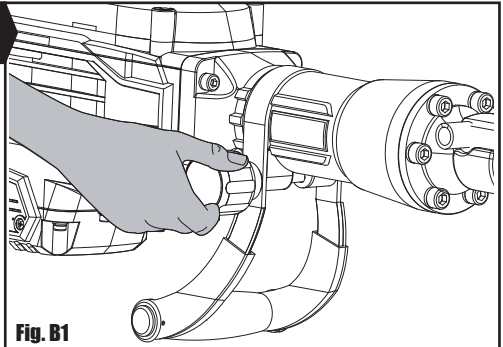

Fig. B1
2. FITTING THE AUXILIARY HANDLE (See Fig. B1,B2)